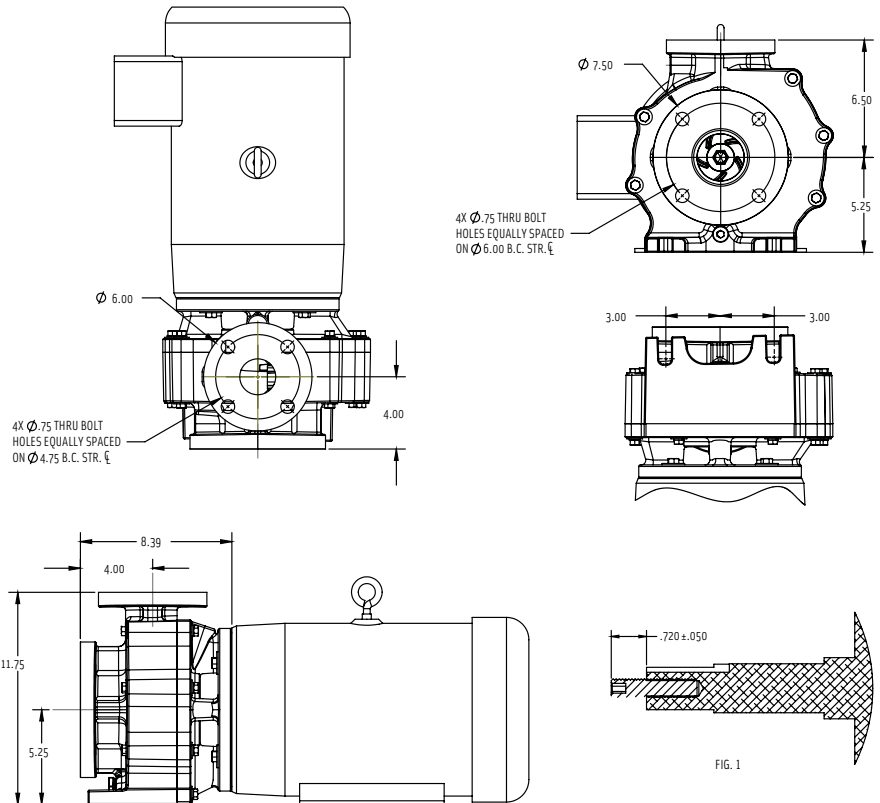

FIG. 1
8. Assemble 3/8"-16 x 1.75" long stainless steel threaded rod with hex recess into end of motor shaft, using 3/16" Allen wrench. Threaded rod should extend from shaft approximately .720 +/- .050" (reference Fig. 1 of insert drawing).